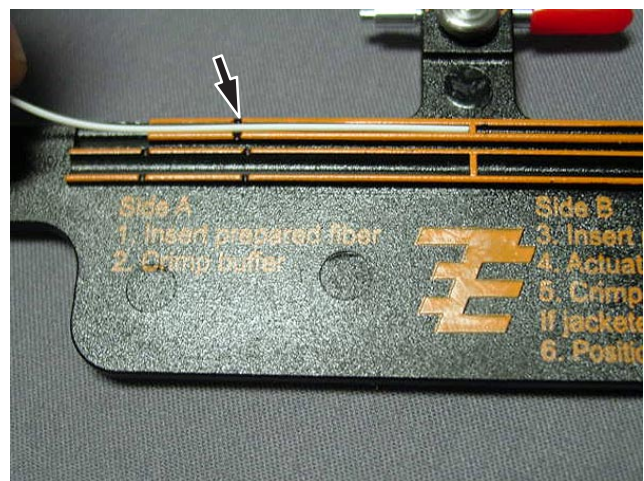

Figure 8
6. Place fiber into the top template and mark at the slot as shown in Figure 8. Repeat for second end.